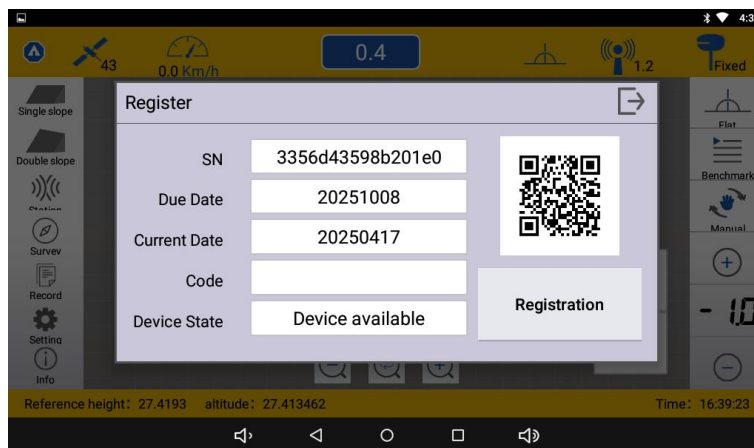

Figure 40
Step2. The SN code needs to be given to the sales staff or customer service staff to complete the registration. (Figure 40)